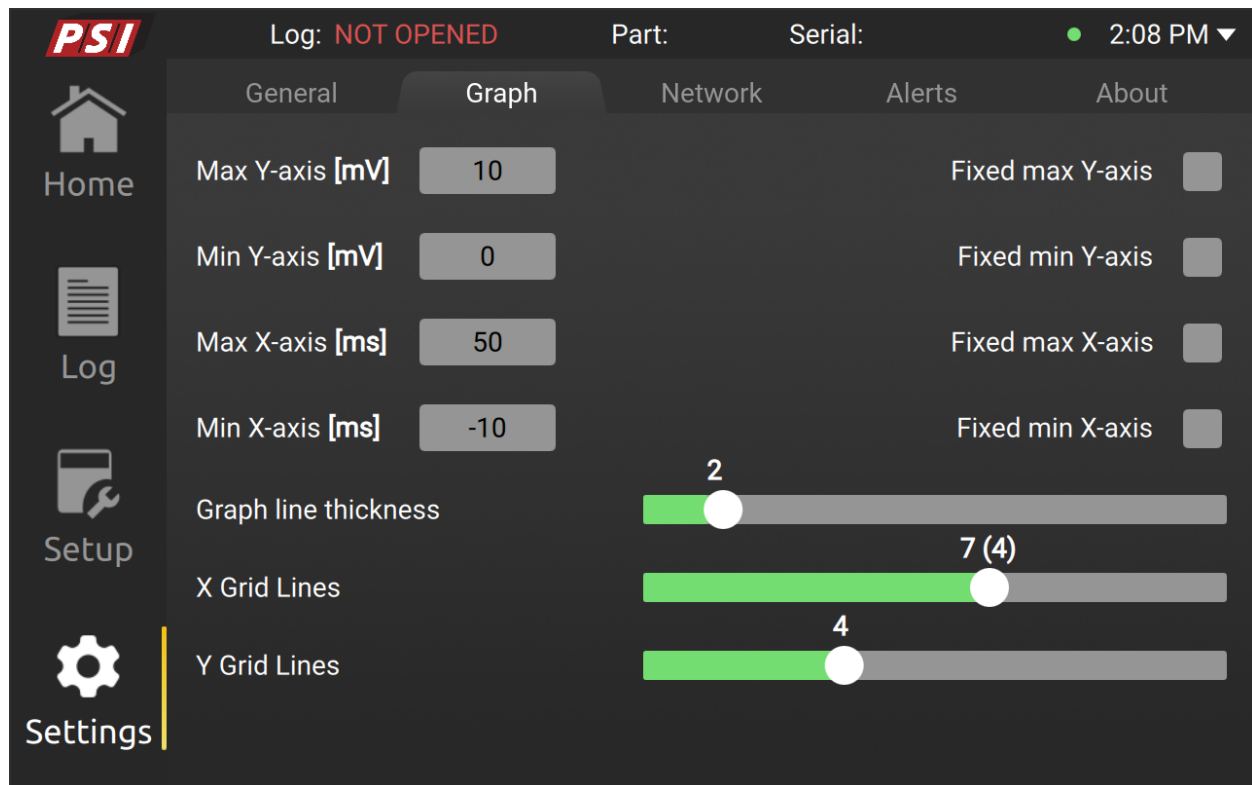

Figure 25 – Graph tab of the Settings page
- Network (Figure 25)
Figure 25 is an illustration of the Network tab containing different possibilities for setting up a network connection.